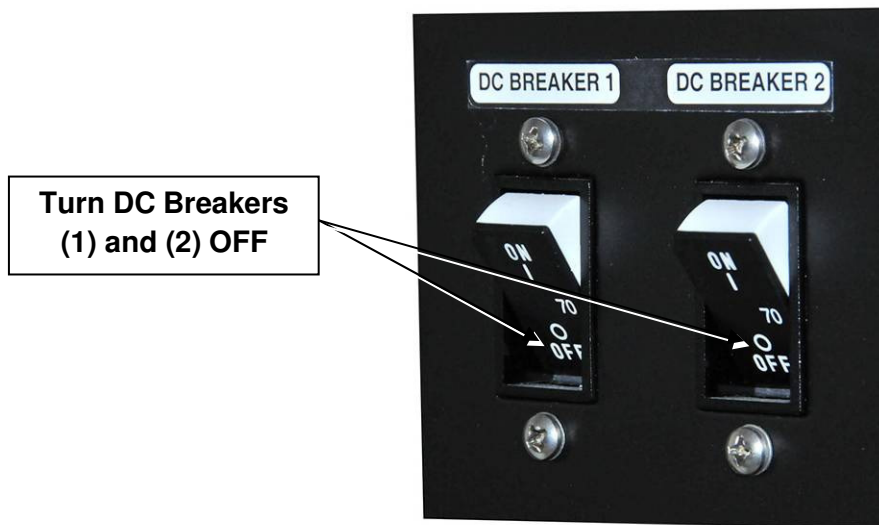

Figure 17: DC Circuit Breakers (1) and (2)
5.2 REPLACING DC CIRCUIT BREAKERS (P/N FC00106): SEE FIGURES 17 AND 18
- Turn both circuit breakers OFF, see Figure 17.